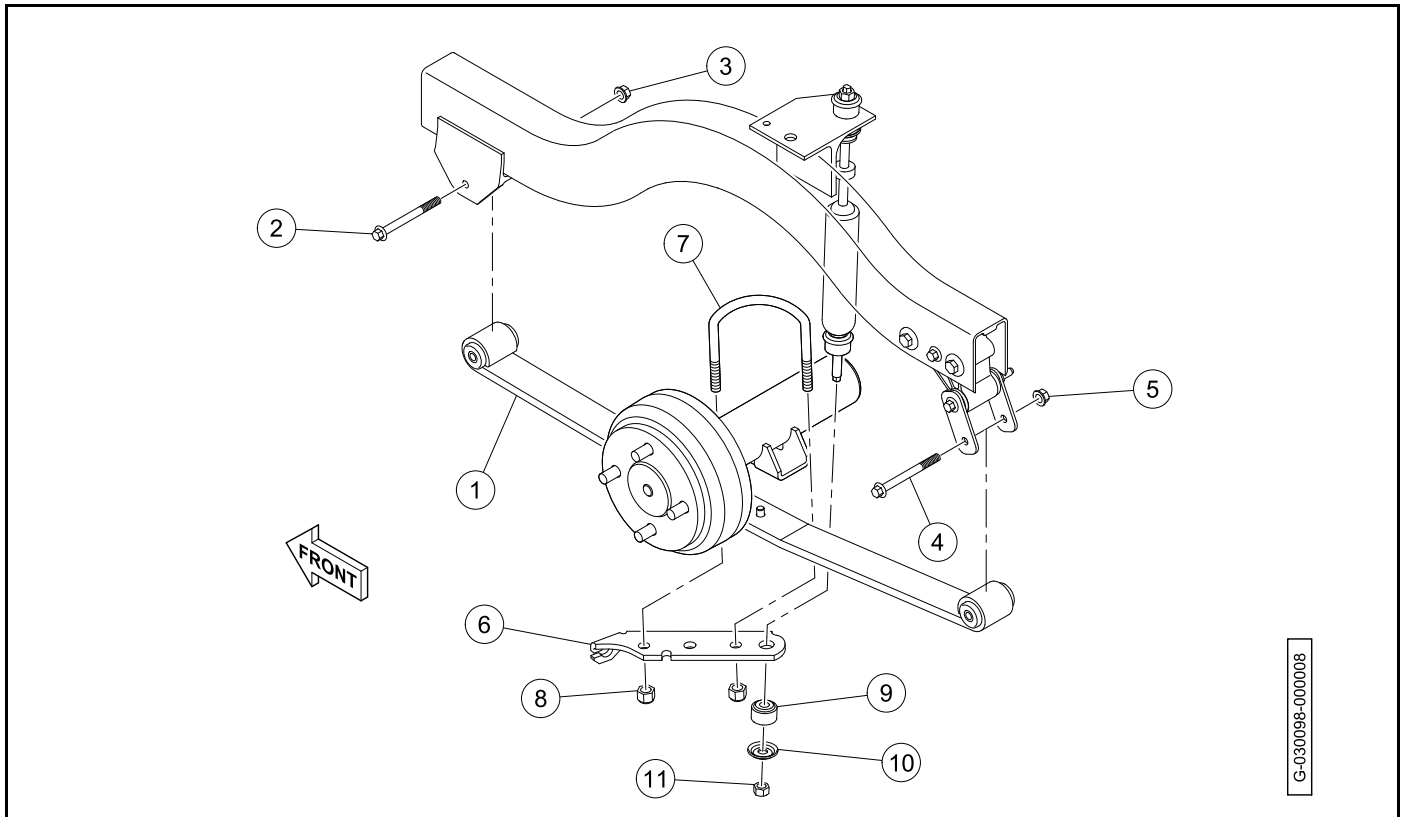

Figure 9-7 Leaf Spring Installation - Two-Passenger
1. Install the front of the leaf spring (1) onto the vehicle frame (Figure 9-7).